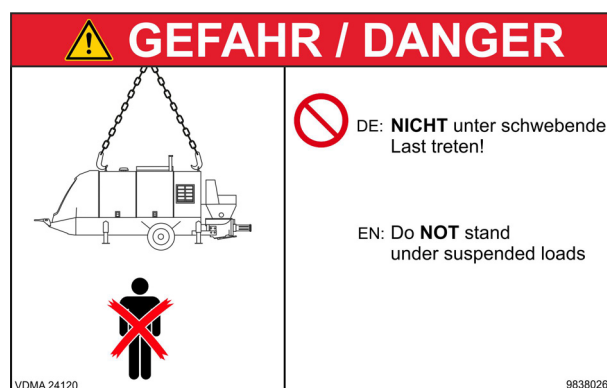
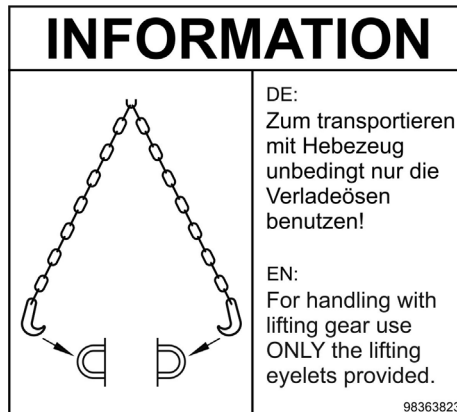

Fig. 50
Fig. 51
- Use suitable slings and only attach them to the lifting eyes on the machine. Observe the warning signs (**Fig. 50**) and (**Fig. 51**).